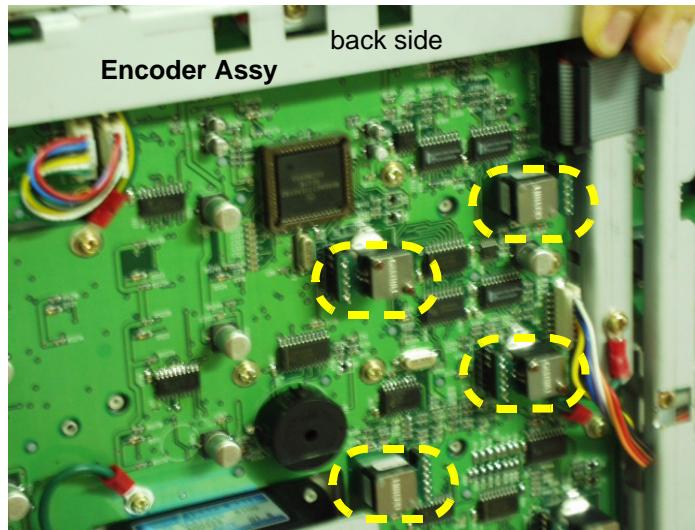

Figure 8-26 Removing Encoders
- 4.) Disconnect each of the encoders from the back side of the keyboard. Refer to Figure 8-26.